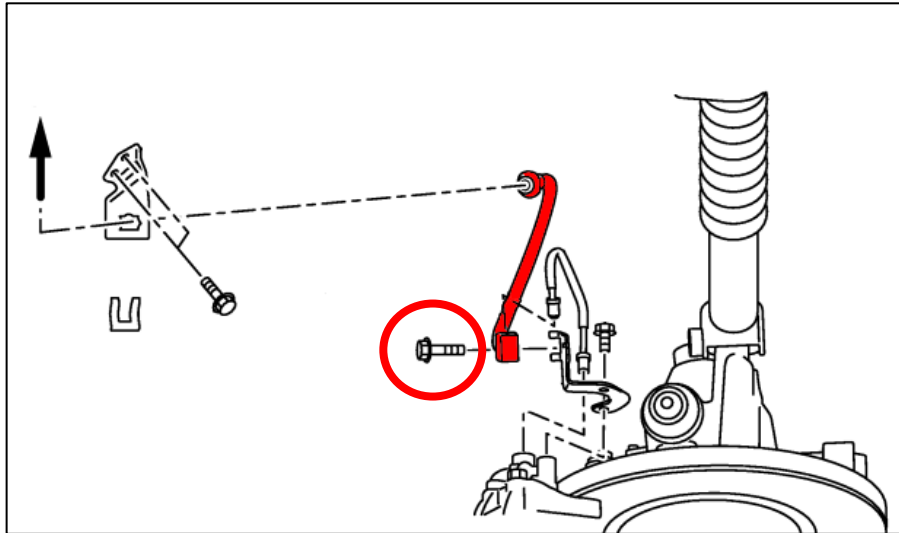

Figure 3
7. Use the OE Hardware to secure the new Brake Line to the vehicle. Torque the Bolt (Circled below) securing the Brass Block in the Brake Line to **16 ft-lbs**. *Figure 3.*